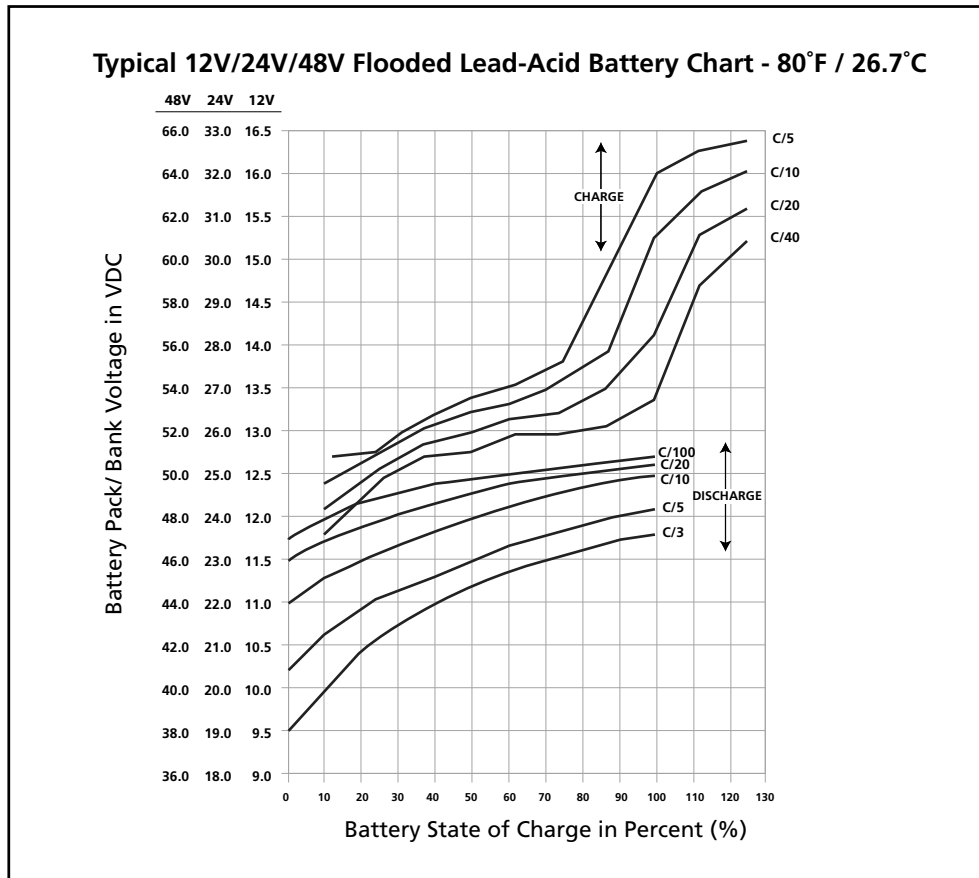

Fig 1.4.1 Charging / Discharging Curves for Typical 12V/24V/48V Flooded Lead Acid Battery
1.4.11.1 Fig 1.4.1 shows examples of State of Charge / Discharge Curves for different C-rates for typical 12V / 24V / 48V Lead Acid Battery Pack/ Battery Bank at 80°F / 26.7°C. These curves are used to determine the State of Charge / Discharge of the Battery Pack/ Bank based on its terminal voltage.
1.4.11.2 Example of Determining State of Charge (using Fig 1.4.1) when Charging 48V, 100Ah Battery Bank at C-rate of 0.1C or C/10 or 10A: Refer to Charge Curve marked C/10 of the upper 4 curves marked "CHARGE".
1.4.11.3 Example of Determining State of Discharge (using Fig 1.4.1) when Discharging 48V, 100Ah Battery Bank at C-rate of 0.33C or C/3 or 33.3A: Refer to Charge Curve marked C/3 of the lower 4 curves marked "DISCHARGE".
The discharge curves in Fig. 1.4.1 show the % State of Charge versus the terminal voltage of typical Flooded Lead Acid Battery under different charge /discharge currents, i.e. “C-rates” and fixed temperature of 80°F. *(Please note that the X-Axis of the curves shows the % of State of Charge. The % of State of Discharge will be 100% - % State of Charge).*
As stated earlier at Section 1.4.14, the buzzer alarm is triggered when the voltage at the DC input terminals of the inverter has dropped to around (i) 10.5V for a 12V battery pack/ battery bank or, (ii) 21V for 24V battery bank or, (iii) 42V for 48V battery bank at C-rate discharge current of C/5 Amps. Please note that the terminal voltage relative to a particular State of Discharge decreases with the rise in the value of the discharge current. For example, terminal voltages for a State of Discharge of 80% (*State of Charge of 20%*) for various discharge currents will be as given at Table 1.4.5 (*Refer to Fig. 1.4.1 for parameters and values shown in Table 1.4.5*):
Inverters are normally provided with a protection to shut down the output of the inverter if the DC voltage at the input terminals of the inverter drops below a threshold of (i) around 10V for a 12V battery pack/ battery bank or, (ii) 20V for 24V battery bank or, (iii) 40V for 48V battery bank. Referring to the Discharge Curves given in Fig 1.4.1, the State of Discharge for various C-rate discharge currents for battery voltage of 10V / 20V / 40V is as follows: (Please note that the X-Axis of the curves shows the % of State of Charge. The % of State of Discharge will be 100% - % State of Charge):